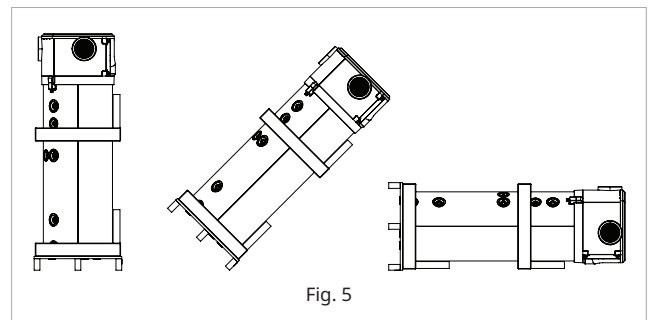

Fig. 5
- Incline the appliance as per Fig. 5.